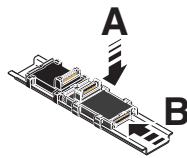

Figure 7-4 Connecting bus base modules to each other
- Place all other bus base modules required for the station on the DIN rail (Figure 7-4, A).
- Push each subsequent bus base module into the connection of the previous bus base module (Figure 7-4, B).